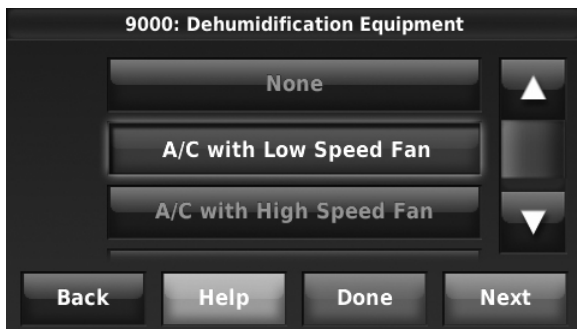

Fig. 216.
1. Select the Dehumidification Equipment in ISU 9000. See Fig. 216.